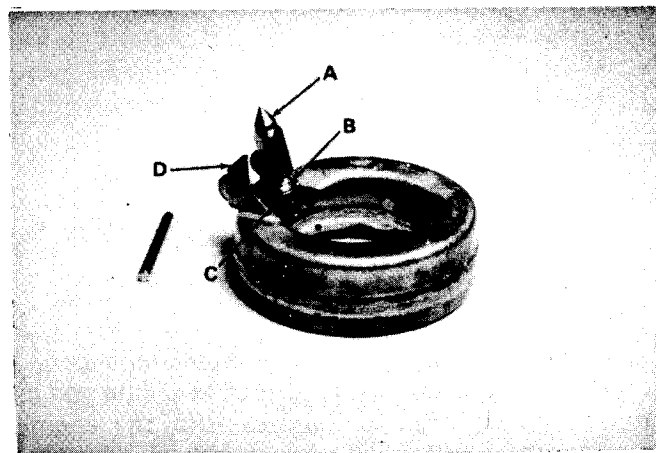

Figure 97. Needle and Seat Inspection.
installation into the carburetor. (See Figure 97.)
- a. Make certain, if the spring (B) has a fastener, that it is connected to tab (C) on the float. (See Figure 97.)
- c. Adjust the clearance between the float and the casting rim to $5/32$ of an inch (illustrated by a $5/32$ " drill) by bending tab (C). (See Figure 97.) The float travel setting (D) is $3/16$ ". Tab (D) must be bent to limit float travel.